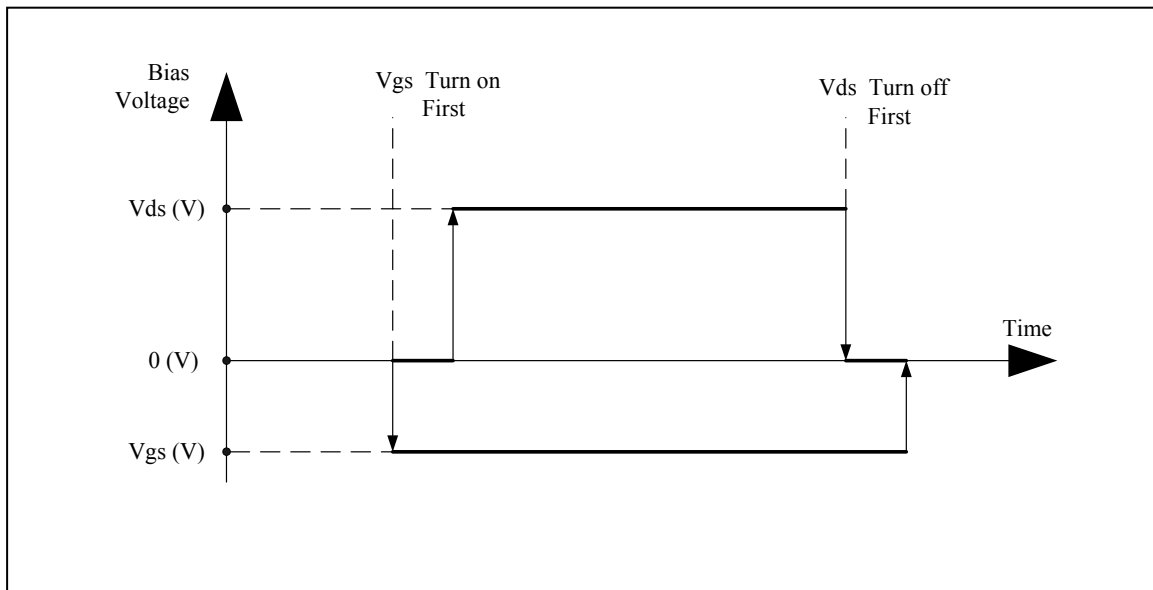

Figure 3: DC Bias Sequence
- 3) RF Bias Circuit: The injection of bias voltages into a GaAs FET RF circuit is typically accomplished via quarter wavelength transmission lines. This configuration, as shown in Fig. 3, is intended to provide the DC connection to the GaAs FET gate and drain, with minimal impact to the device RF performance.